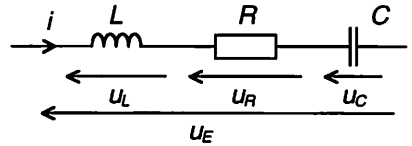

Figure 1.1 Circuit RLC
**Exemple :** Circuit RLC (Fig. 1.1)